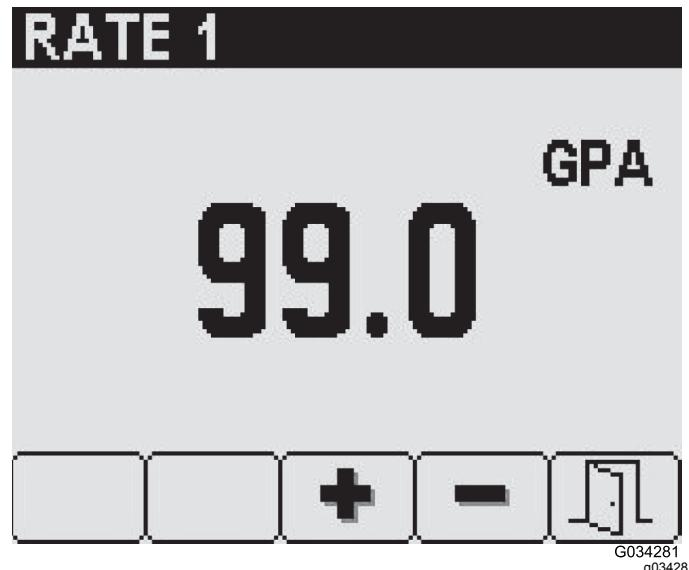

Figure 18
3. In the screen for the selected rate, use buttons 3 and 4 to set the desired rate (Figure 18).